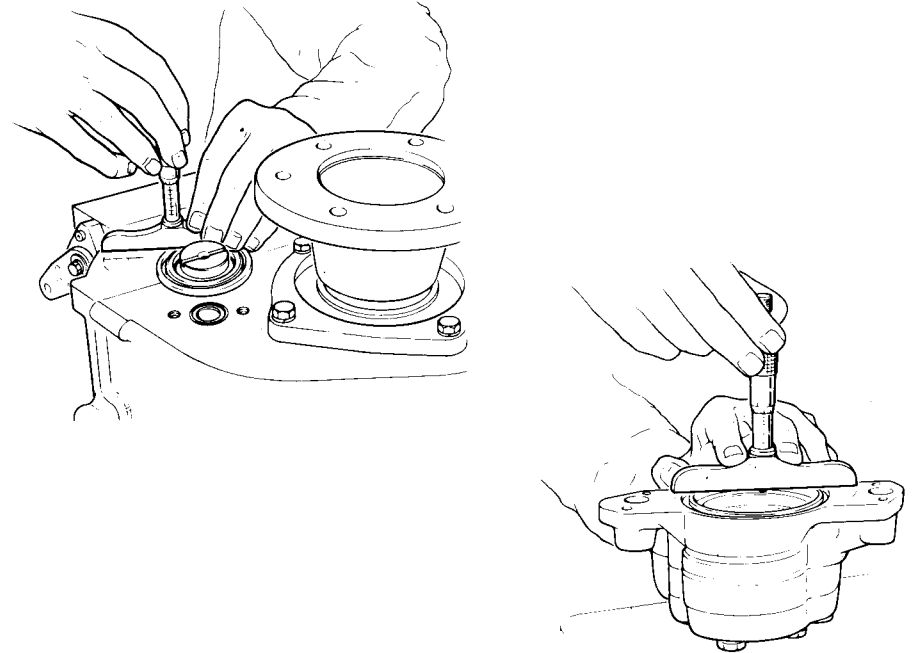

Fig. 14. Shimming Procedure
1. Press the outer bearing cup firmly into position and measure between the face of the gearcase and the top of the bearing outer as shown in Fig. 14.